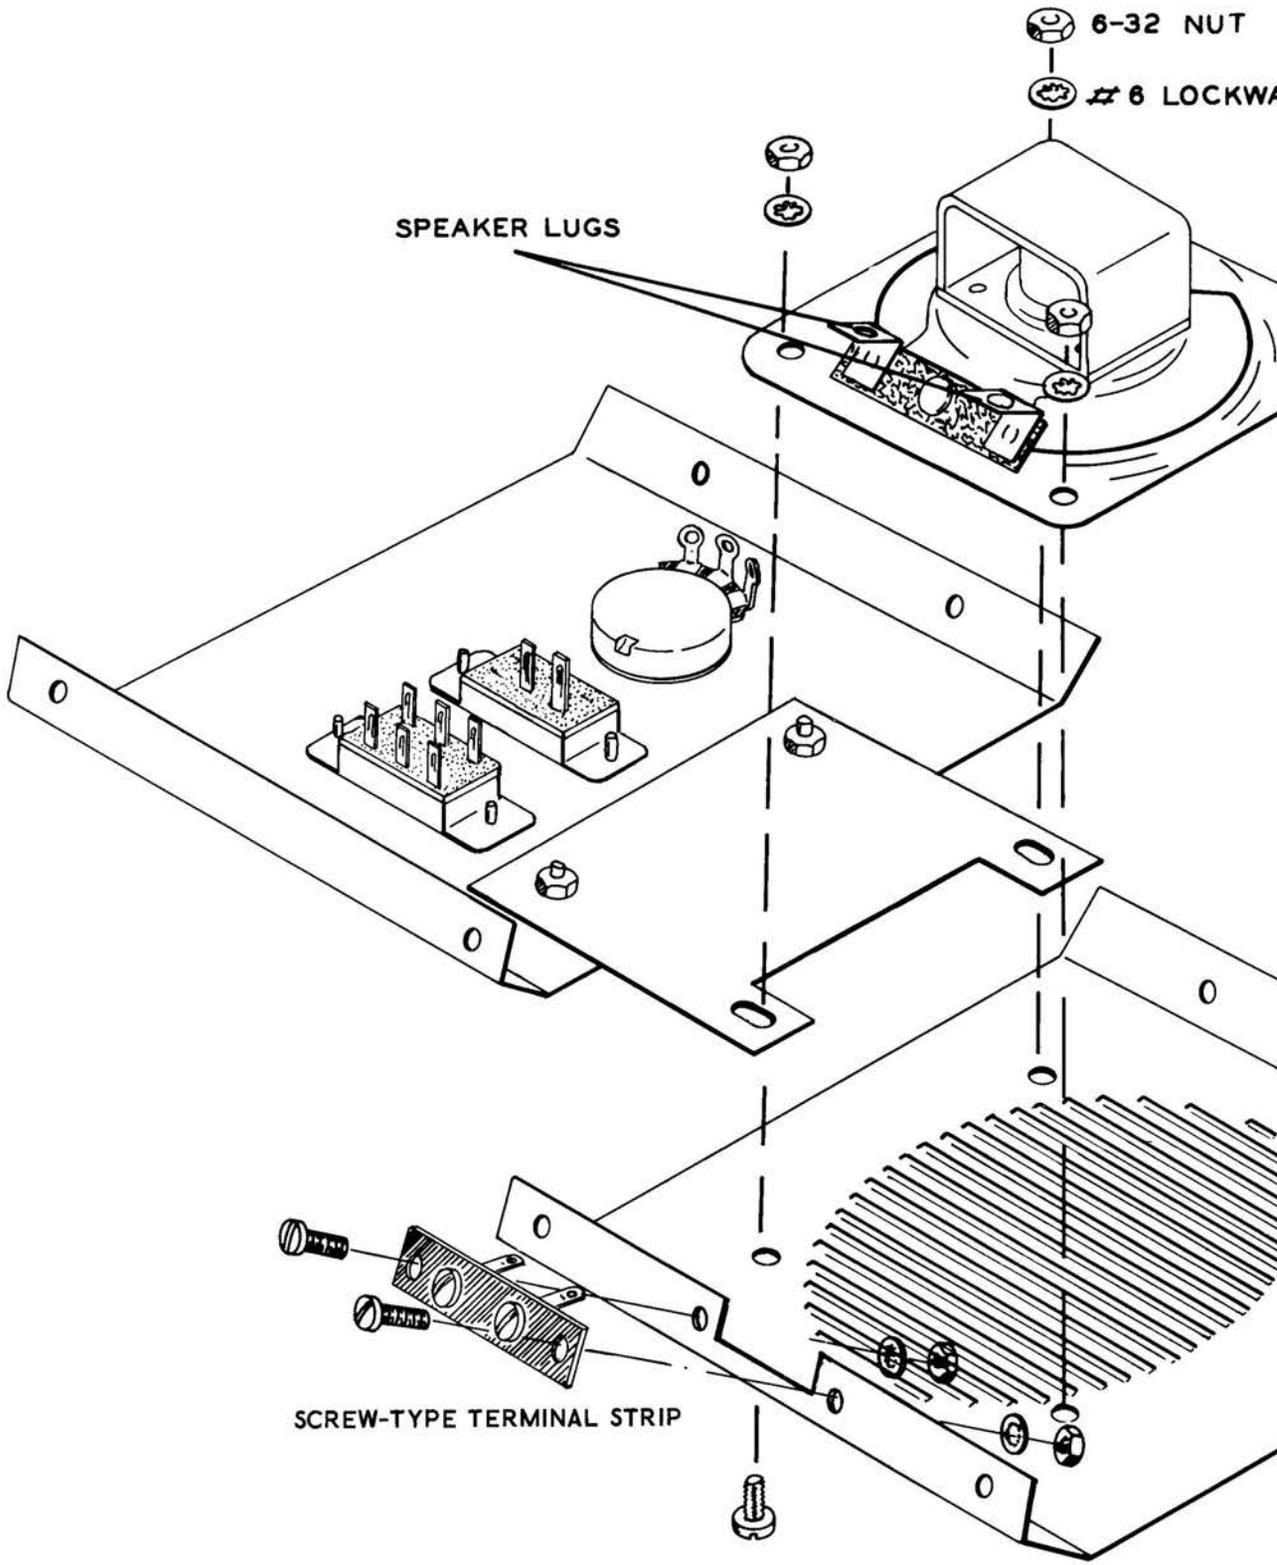

Figure 3G
- () Place the other half of the master front panel as shown in Figure 3G and fasten the screw-type terminal strip to it using 6-32 x 1/4" screws, #6 lockwashers, and 6-32 nuts.